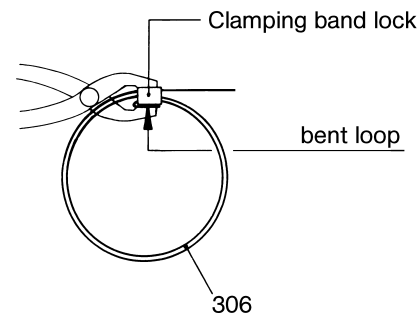

Figure 8: Press clamping band loop against clamping band buckle.
- Mount cover sleeve (308) with screw driver, lift top with screw driver, run spray pipe of the oil can under the sleeve and fill the space in the joint with ALLWEILER special joint oil type B or oil ET 15 10 ISO 460 of Tribol Lubricants GmbH, Mönchengladbach, Germany. When the pump is used for foodstuffs, fill with ALLWEILER Spezial Gelenköl Type BL or oil 1810/460 of Tribol Lubricants GmbH, Mönchengladbach, Germany. Lubricant quantities see table, Section 7.1.2.5 above.
- Check whether bent loop of the clamping band (306) rests against the clamping band buckle. If not, press against by means of commercial flat pliers (please refer to Figure 8 below).